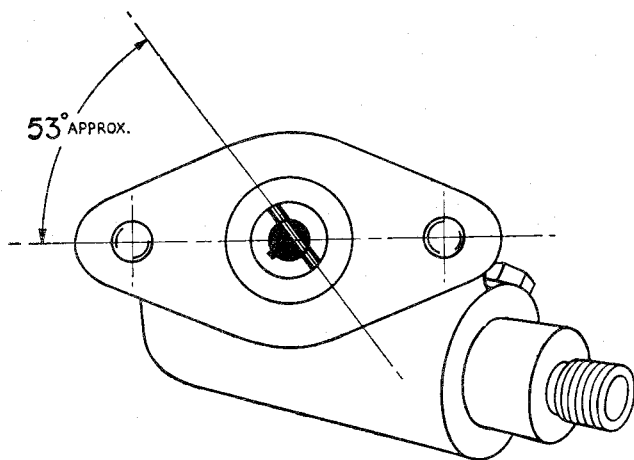

Fig. 16 Position of Slot in Distributor Boss when No. 1 cylinder is at T.D.C. on compression stroke.
When correctly engaged the slot in the distributor driving boss, with No. 1 cylinder at T.D.C. on the compression stroke, should assume a position approximately "five minutes to five" with the offset towards the rear of the engine (Fig. 16). In this position the slot will point directly towards the exhaust valve rod sealing tube for No. 1 cylinder, the distributor rotor will face No. 1 sparking plug, and the keyway in the helical gear will be aligned with the oil dipstick when fitted.
- (b) When refitting the oil pump and distributor driving helical gear, ensure that No. 1 piston is at T.D.C. on the compression stroke. In this position the correct engagement of the helical gear should allow the Woodruffe key to be positioned towards the front of the engine, pointing approximately towards the dipstick (Fig. 16). It may be found that the oil pump shaft will not engage with the pump for the tongue and slot of these components are out of line. The engine will need to be turned over slowly until the shaft engages with the pump. Continue to turn the engine until the offset slot in the distributor drive boss attains the position as illustrated in Fig. 16. Disengage the helical gear and remove it from the housing. Turn the engine over until No. 1 piston attains the T.D.C. position on the compression stroke and replace the